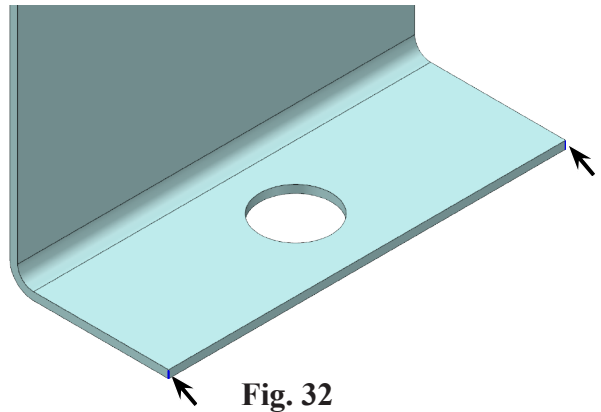

Fig. 32
Step 4. Click **both vertical corner edges**, **Fig. 32**.